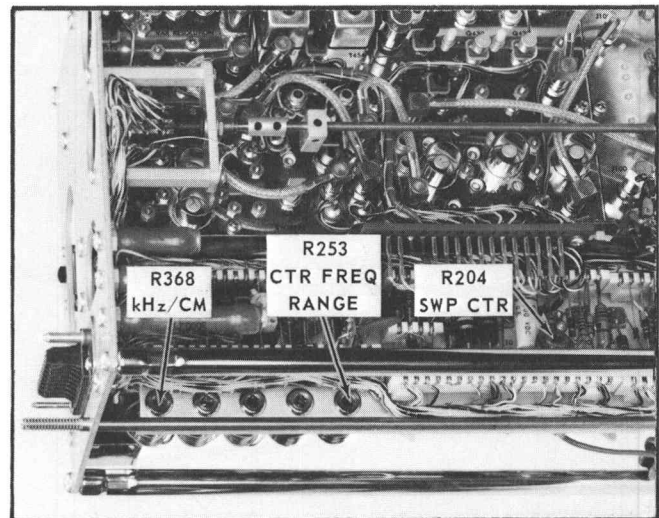

Fig. 6-13. Location of Center Frequency adjustments.
d. Adjust the Center Freq Range control R253 (see Fig. 6-13) so that the signal does not shift in position as the DISPERSION—COUPLED RESOLUTION control is rotated.